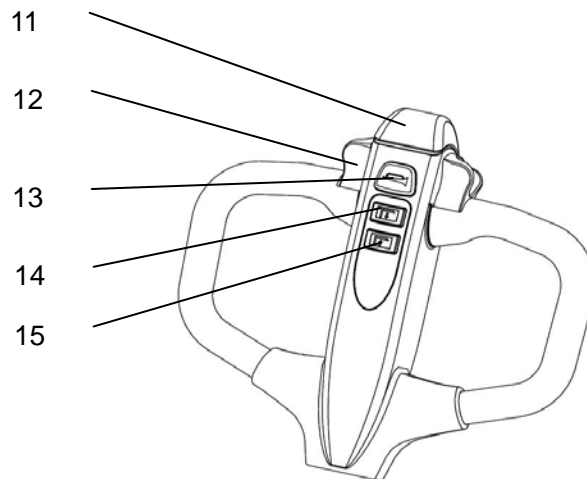

Fig.9: Tiller operating controls
After starting the truck by turning on the key switch (10), move the tiller to the operating zone ('F', fig.9). Turn the accelerator button to the desired direction forward 'Fw.' or backwards Bw.'(fig. 9).